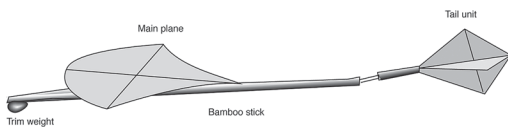

Figure 1: George Cayley's glider model. This was a simple kite with tail, mounted on a stick. The tail could be adjusted to different angles
**G**eorge Cayley, a Yorkshireman, was flying model aircraft successfully 200 years ago. His small glider of 1803 resembled a simple kite without a string. The lifting surface was mounted at an appropriate angle on a long stick, with a stabilizing tail. It flew (Figure 1).